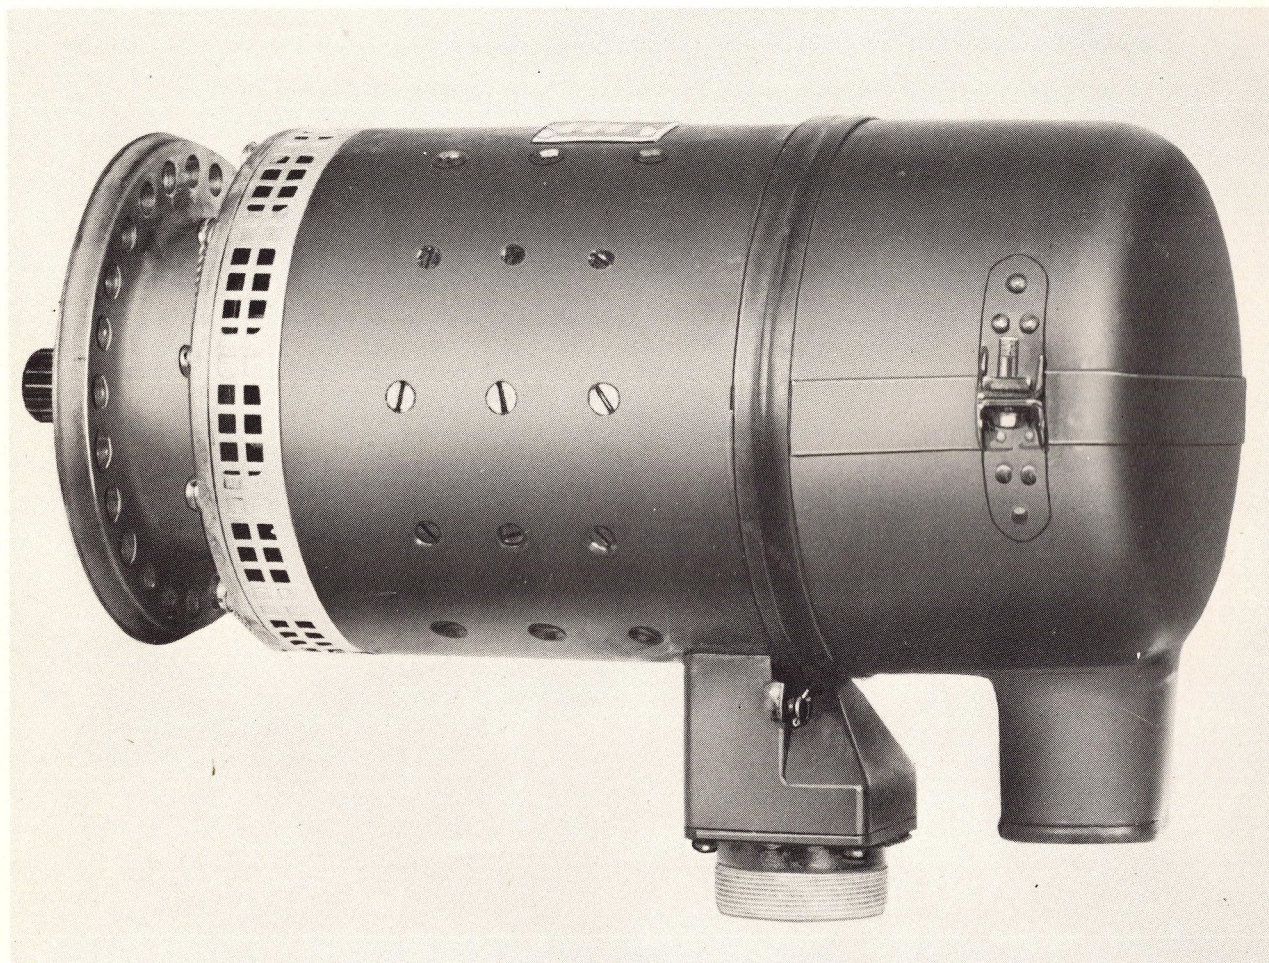
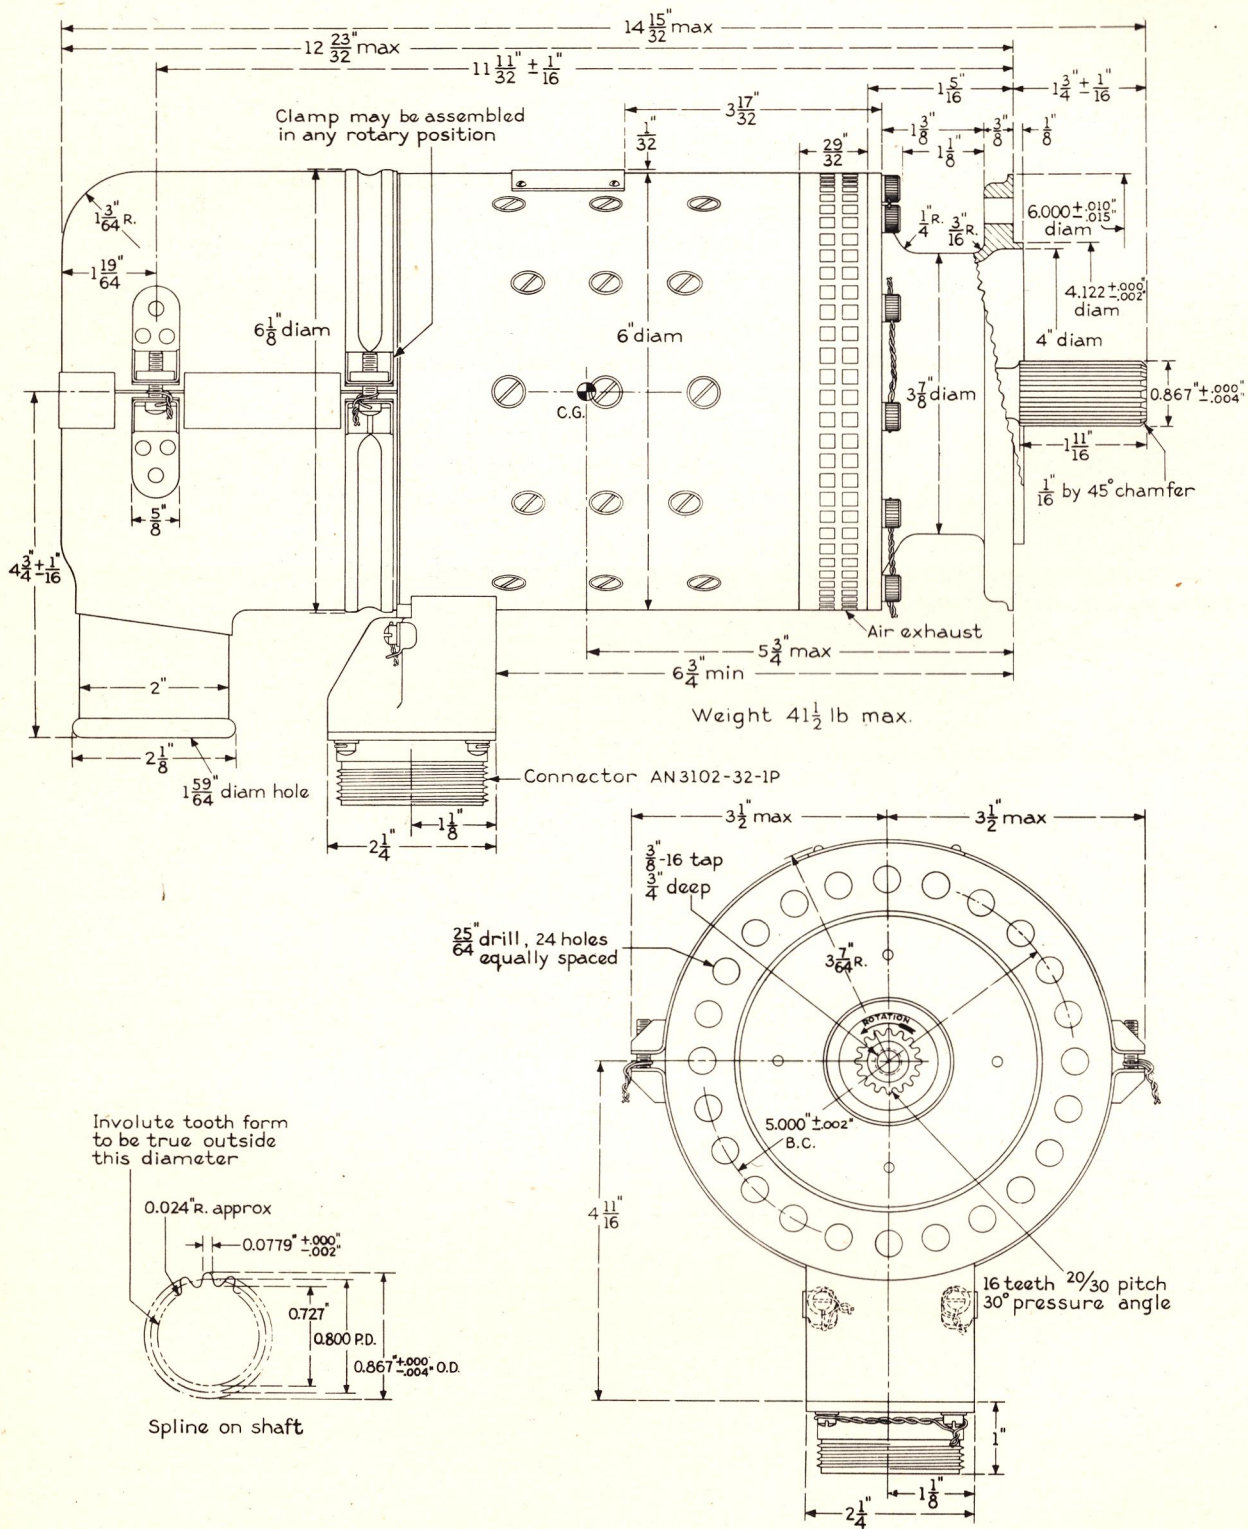

Fig. 1. Generator, Model 2CM70B1
Fig. 2. Dimensions of Generator
2. The generator as shown in Fig. 1 is a six-pole, fully enclosed, compensated, commutating-pole design.
3. Over-all and mounting dimensions are shown in Fig. 2. Mounting dimensions are in accordance with Fig. 1 of Army Specification No. 95-27276.